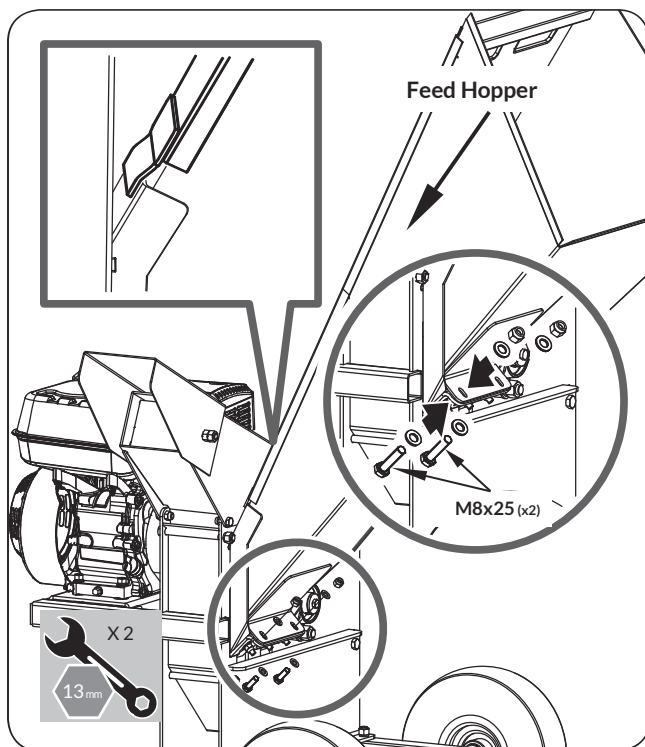

Figure 7
3. Place the feed hopper onto the machine. Make sure the lip on the hopper goes over the chute housing on the main machine. Tighten the feed hopper on the unit with M8x25 bolts, washers and nuts. (See **Figure 7**)